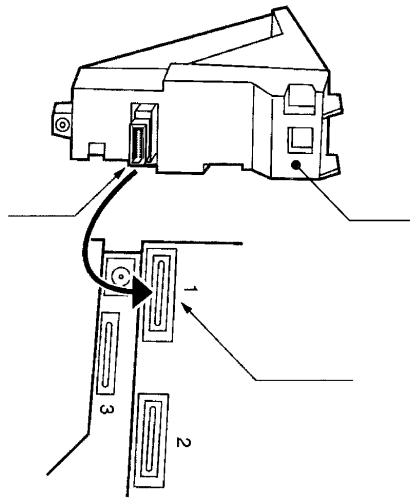
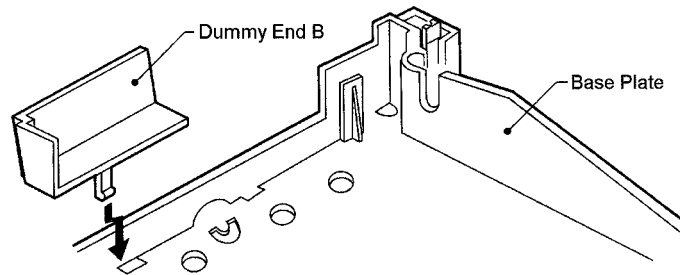

Figure 6-37: Installing Adapter in Connector 1
Figure 6-38: Installing Dummy End B
8. If Adapter is installed in Connector 1 as show in *Figure 6-37: Installing Adapter in Connector 1*, Install Dummy end B as shown in *Figure 6-38: Installing Dummy End B*.